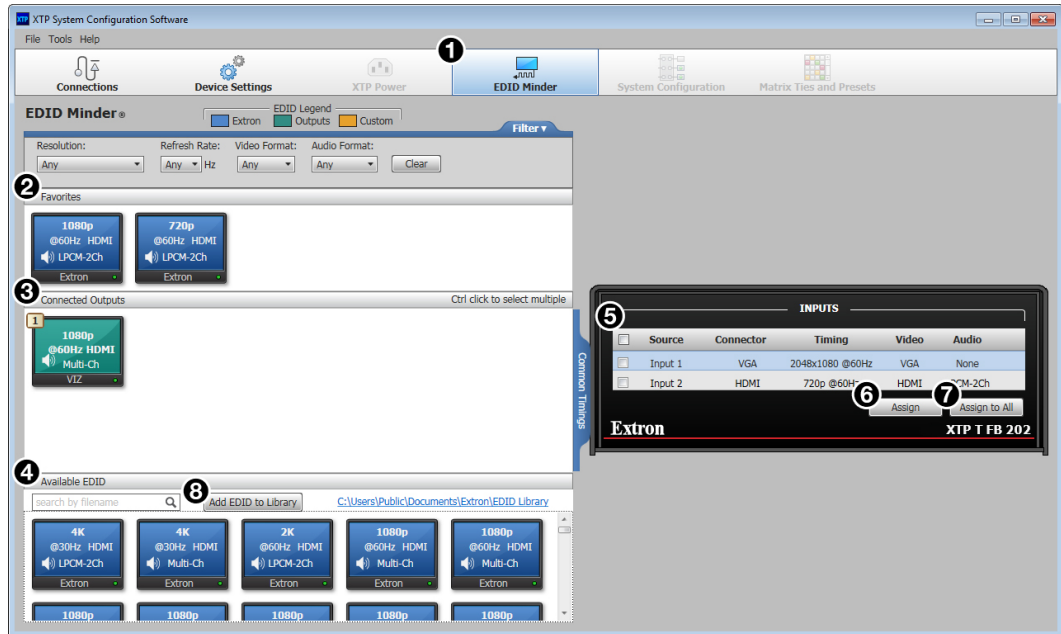

Figure 38. EDID Minder Screen
Use the EDID Minder screen to assign unique EDID to the input or match current output EDID to the input. Click the **EDID Minder** icon (see figure 38, ①) on the Global Navigation bar. The EDID Minder screen opens.
1. In the Available EDID panel, click the **Add EDID to Library** button (see figure 38, ⑧ on the previous page). The Browse window opens.
2. Navigate to and select the desired EDID file and click **Open**. The EDID file appears in the Available EDID panel (see figure 38, ④ on the previous page).
1. Right-click on the desired EDID icon in the **Connected Outputs** panel (see figure 38, ③ on the previous page).
- Click and drag the desired EDID icon from the **Connected Outputs** or the **Available EDID** panel to the **Favorites** panel. The EDID setting is copied to the Favorites panel (see figure 38, ② on the previous page).